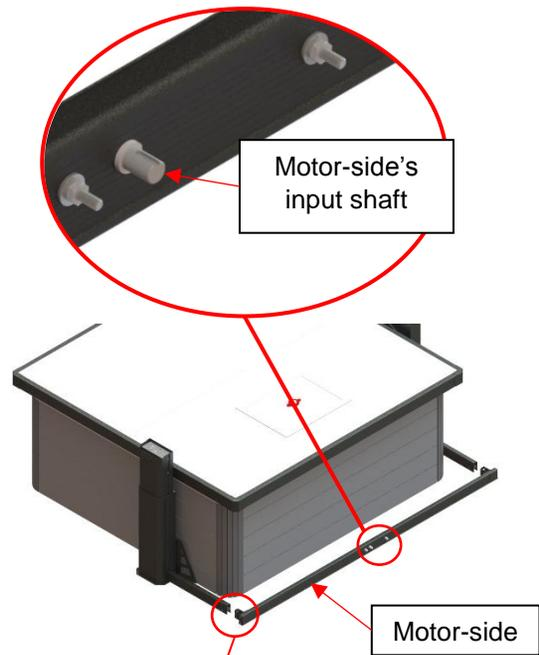

Figure 76
- Place the motor-side along the rear of the cover with each end close to the two square drive-shafts that were installed previously. (Figure 76)
- Ensure the input shaft in the middle of the U frame is pointing outwards from the cover. (Figure 76)
- Slide the open end of the left square drive-shaft over the square shaft located at the end of the motor-side. (Figure 76)